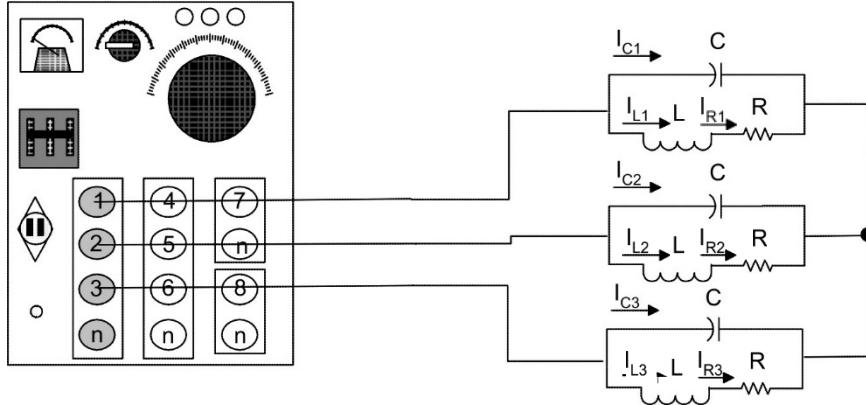

FIGURE 3.8
- Step 3: Substitute the AC ammeters by the marked leads (one at a time), as shown in Figure 3.8 to measure currents  $I_1$ ,  $I_2$ , and  $I_3$ .
- Step 6: Substitute the AC ammeter to measure  $I_{C1}$ ,  $I_{C2}$  and  $I_{C3}$  as shown in Figure 3.8. Repeat steps 4 and 5.
- Step 7: Substitute the AC ammeter to measure  $I_{R1}$ ,  $I_{R2}$  and  $I_{R3}$  as shown in Figure 3.8. Repeat steps 4 and 5. Turn off the power supply
- Step 8: Substitute the AC ammeter as shown in Figure 3.8 to measure  $I_{L1}$ ,  $I_{L2}$  and  $I_{L3}$